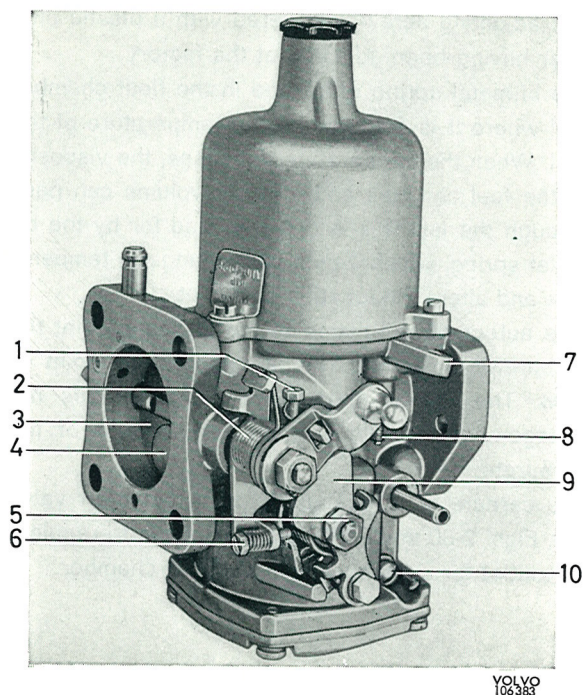
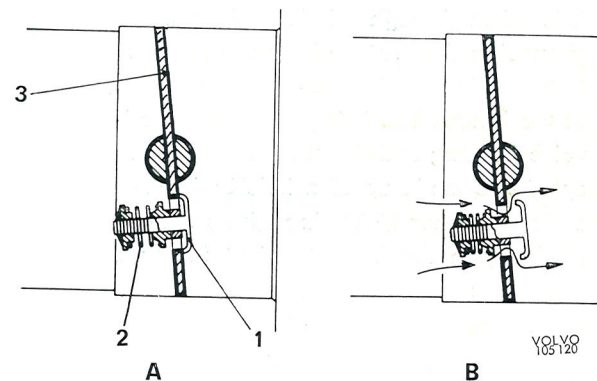
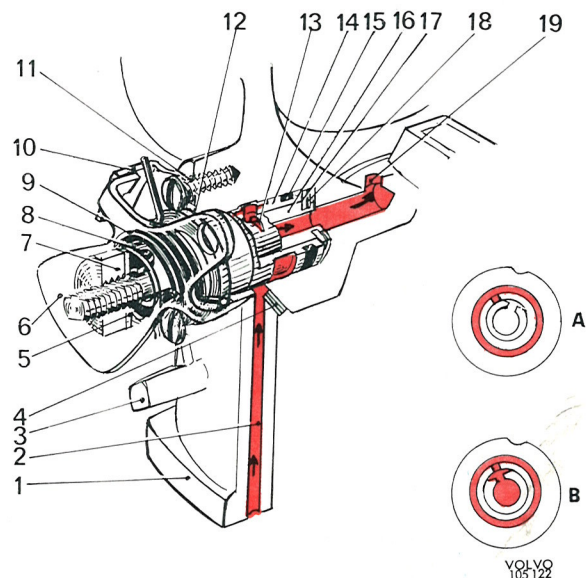

Fig. 2-82. SU carburetor, front, left side
Fig. 2-91. Overrev valve (only on vehicles with Gas Evaporative Emission Control)
Fig. 2-93. Cold start device
On vehicles for the Canadian market an overrev valve (4, Fig. 2-82) is located in the carburetor throttle. This valve opens when the throttle is closed during engine braking. A suitable quantity of fuel-air mixture passes through the valve and this reduces considerably the volume of noxious exhaust gases (see Fig. 2-91).
The cold start device (5, Fig. 2-82) is connected manually. Turning the cold start device spindle opens a channel between the float chamber and venturi. Extra fuel for the venturi is obtained through this channel (see Fig. 2-93).
Fuel flows into the float chamber through the float valve (4, Fig. 2-82). The float (9) is journaled on a float spindle (7). When the fuel level rises, the float lifts and at the proper fuel level the float valve is shut off by the float tab.
During cold starting, the fuel-air mixture is given extra fuel through the cold start device. This device consists of a valve housing (14, Fig. 2-93) partly located in a space in the lower section of the carburetor housing and is provided with seals (8 and 15). A pivotable spindle (16) is located in the center of the valve housing. When the spindle is turned to cold start position, fuel is drawn from the bottom of the float chamber through the channel (2) to the space round the valve housing. From there it is taken through a hole in the valve housing, a channel in the center of the spindle and a channel in the carburetor housing to the carburetor venturi at the bridge. The linkage between the hole in the valve housing and the channel in the center of the spindle is made up of a hole and a V-slot. When the spindle turns, the through-flow area is altered gradually in the V-slot, and at full turn, the fuel goes directly through the hole, see Fig. 2-93. In this way the quantity of additional fuel is regulated. A channel (4) between the float chamber space above the fuel level and the channel (2) for the fuel give the cold start fuel a little extra supply of air. The fast idle cam (6) follows the pivotal movement of the spindle and actuates the position of the throttle. The fast idle cam opens the throttle slightly before the slot in the spindle reaches the